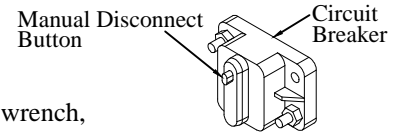

Figure 2: Circuit breaker.
2. **Actuate** the lowering function for five (5) seconds to relieve pressure in the system.
3. **Disconnect** the 4GA power cable from the positive side of the battery or manually **Trip** the circuit breaker (Figure 2).